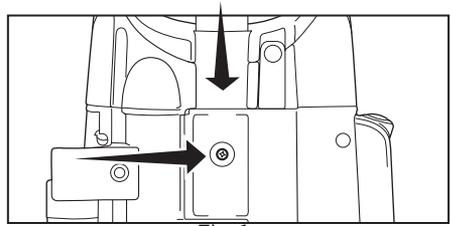

Fig. 1
- Remove the handle screw located on the back of the vacuum (Fig. 1). Insert the handle downward into the body of the vacuum. Insert screw and tighten.